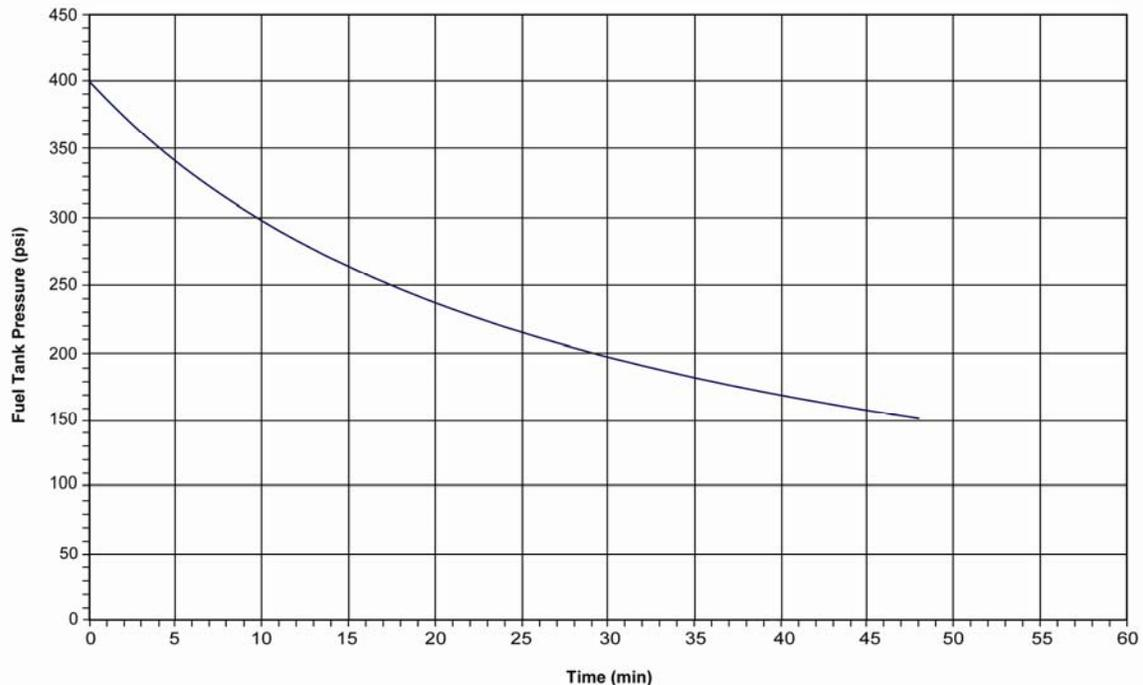

Figure 3: Fuel Tank Pressure vs. Time
- A. Assume you are the MMACS flight controller and your control panel shows the following fuel tank pressure vs. time plot (figure 3).
I. Complete the table below by calculating the mass of hydrazine in the fuel tank. Use Figure 3 to find pressure at a given time.
I. Complete the following table using the rate of change formula from question D to calculate the rate of change of hydrazine ( $m_{N_2H_4}$ ). Use Figure 3 and your answers from question A when completing the table.